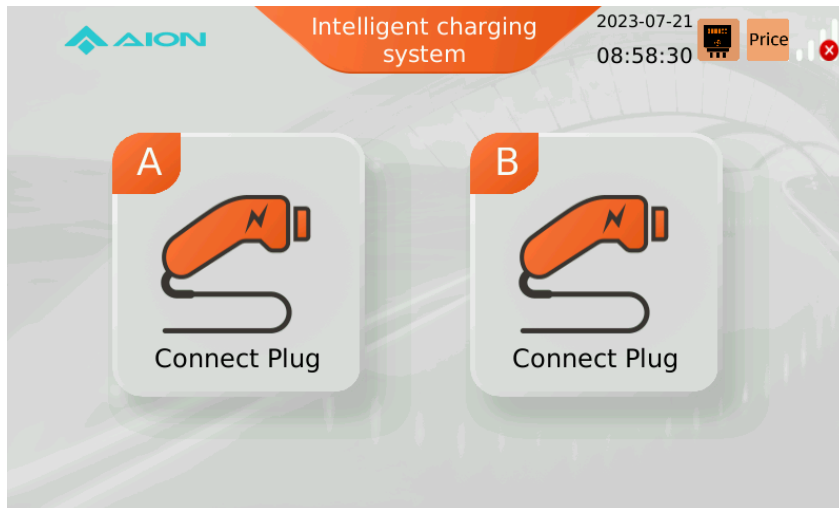

Figure 3.1 Unplugged charging plug
1. Before connecting the plug: before the charging plug tip is connected to the DC charging port of the charged vehicle, the display displays the state of "Connect plug", and the charging cannot be started, as shown in Figure 3.1 below.